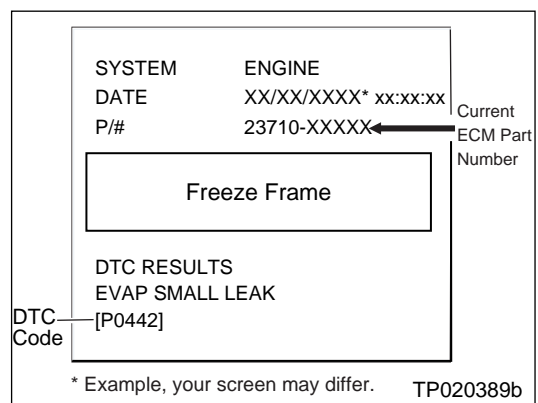

Figure 1
- Figure 1 is an example of the F.F. Data printout.
3. Using the ECM Part Number printout from Step 1 (Figure 1):